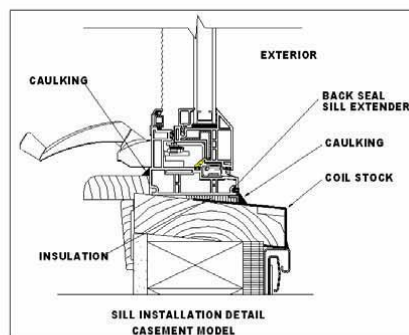

Figure 1
2. Remove the window from the opening. Score and break off excess leg of the sill extender (head extender), caulk accessory groove(s) and snap into the accessory groove on the sill (header). (See Fig. 1)